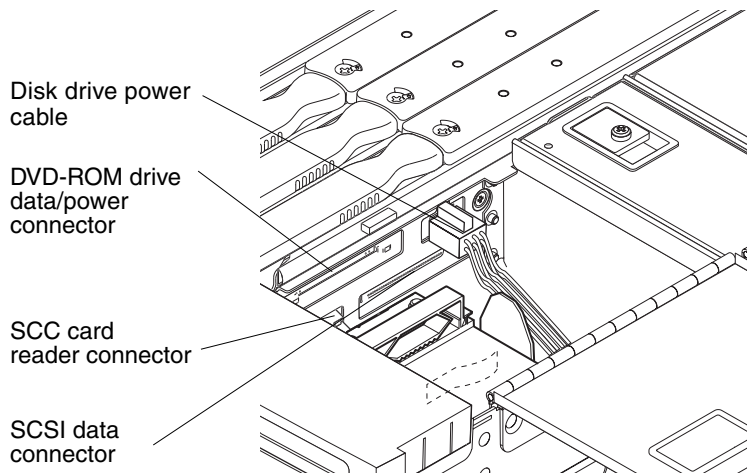

FIGURE 10-3 IB_SSC Assembly Cable and Connector Locations
9. Disconnect the I/O cables from the IB_SSC assembly to the removable media modules (FIGURE 10-3). Secure the cables out of the way.